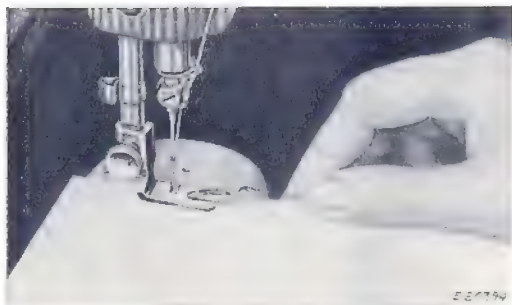

FIG. 35. STARTING A HEM AT THE EDGE
3. Draw the material toward you through the Hemmer, as shown in Fig. 35, at the same time making the second fold at the very edge. Continue to draw the material through the Hemmer until the edge is just under the needle. Place the upper and lower threads together under the Hemmer foot and assist in starting of the hem by slightly pulling the threads from the back as the machine is run.